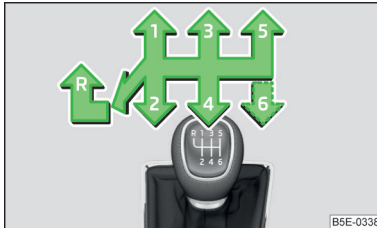

Fig. 140
On the shift lever, the individual gear positions are shown » Fig. 140.
- Move the shift lever fully to the left and then forward into **R** position » Fig. 140.